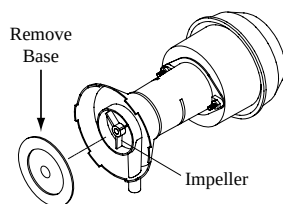

Fig. 7
- **Clean pump.** Cleaning the pump is necessary once a year at start-up. For your safety, turn unit off and unplug from power receptacle. Remove the pump from the mount slot. Remove the base of the pump (Fig. 7). Clean the pump and turn the impeller to ensure free operation. Remove the pump spout and check for any blockage. After cleaning, reinstall the base onto the pump. Press firmly to make sure it is secure. Reattach the pump to the mount in the cooler using the plastic retainer to ensure that the pump will not overturn. Do not forget to replace the spout and water delivery tube onto the pump outlet.